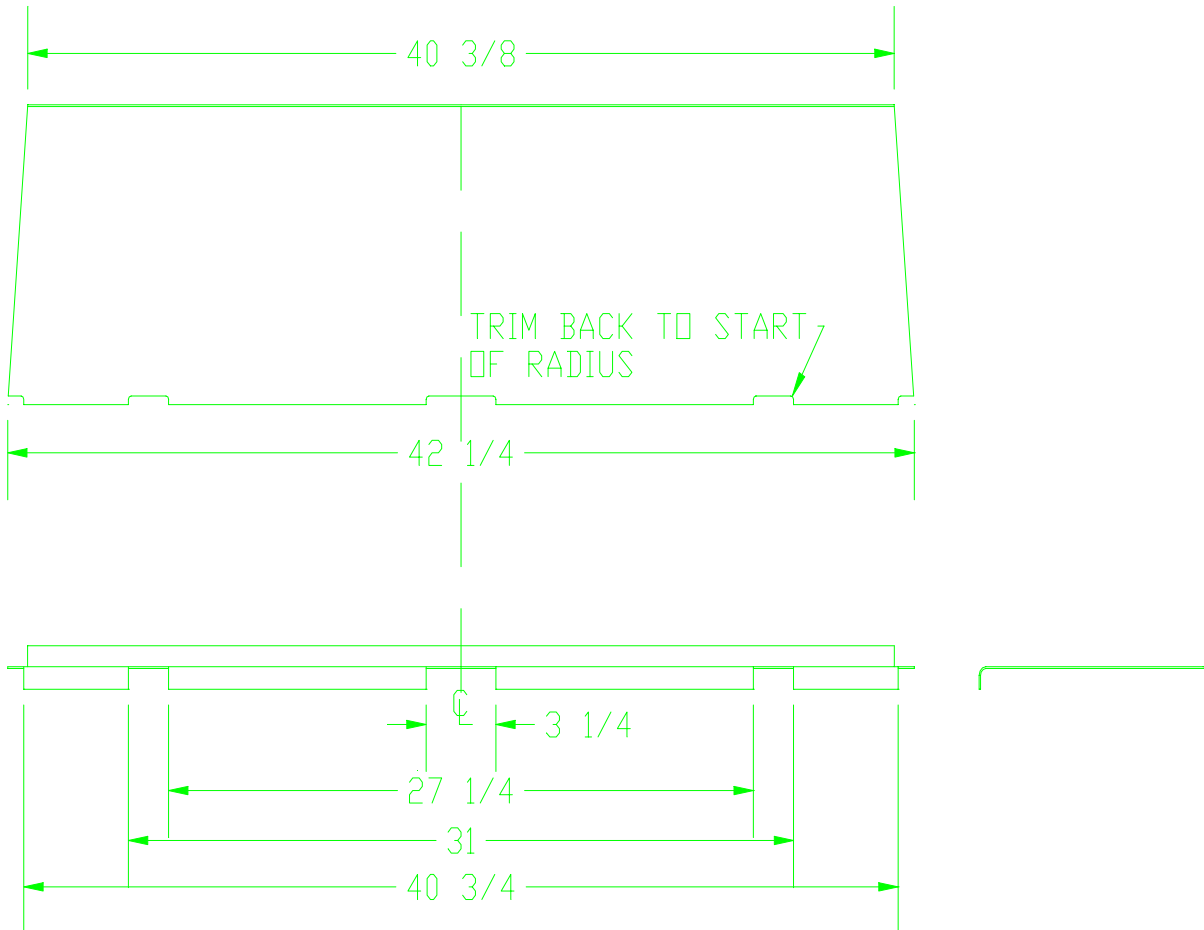

FIGURE 1
- 1) Trim the Forward Floor Skin (FUS-382) as in Figure 1.